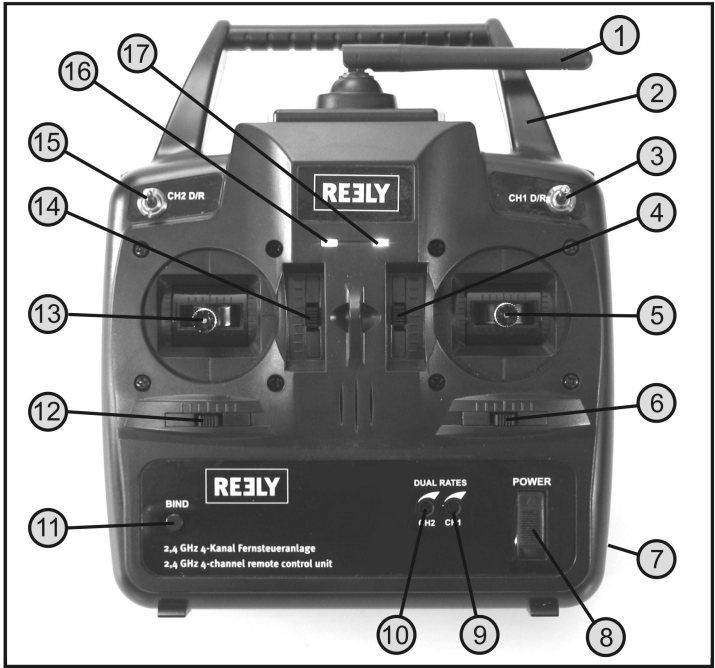

Figure 1
Angle the transmitter's aerial (see figure 1, item 1) to the side, so that the aerial is at a 90° angle to the imagined connection line remote control/model.
If the receiver aerial in the model is aligned horizontally, also adjust the transmitter aerial horizontally (see figure 1). If the receiver aerial in the model is aligned vertically, also adjust the transmitter aerial vertically. The tip of the transmitter aerial then points towards the head of the remote control system operator during model operation. This is how you will achieve best signal transmission to the model.
For the power supply of the transmitter you will need 4 batteries (e.g. Conrad item no. 652507, pack of 4, order 1x) or rechargeable batteries mignon size (AA). For ecological and also for economical reasons it is recommended to use rechargeable batteries, since they can be recharged in the transmitter via a built-in charging socket (see figure 1, item 7).
When new batteries or freshly charged rechargeable batteries have been inserted, switch on the transmitter with the on/off switch (see figure 1, item 8) for test purposes. Push the operating button from the bottom to the top position.
First, the red LED for voltage supply will light up (also see figure 1, item 17). A short term later, the remote control emits two signals and the green LED for the function display (also see figure 1, item 16) starts to light up.
If the voltage supply drops to less than 4.2 V, the green LED for undervoltage (also see figure 1, item 16) starts flashing quickly and the transmitter will emit short signal sounds at the same rhythm. In this case, stop operation of your model as quickly as possible.
The 4-channel-remote control has a digital trimming with which the four control channels can be individually set with a trimming button (also see figure 1, items 4, 6, 12 and 14).